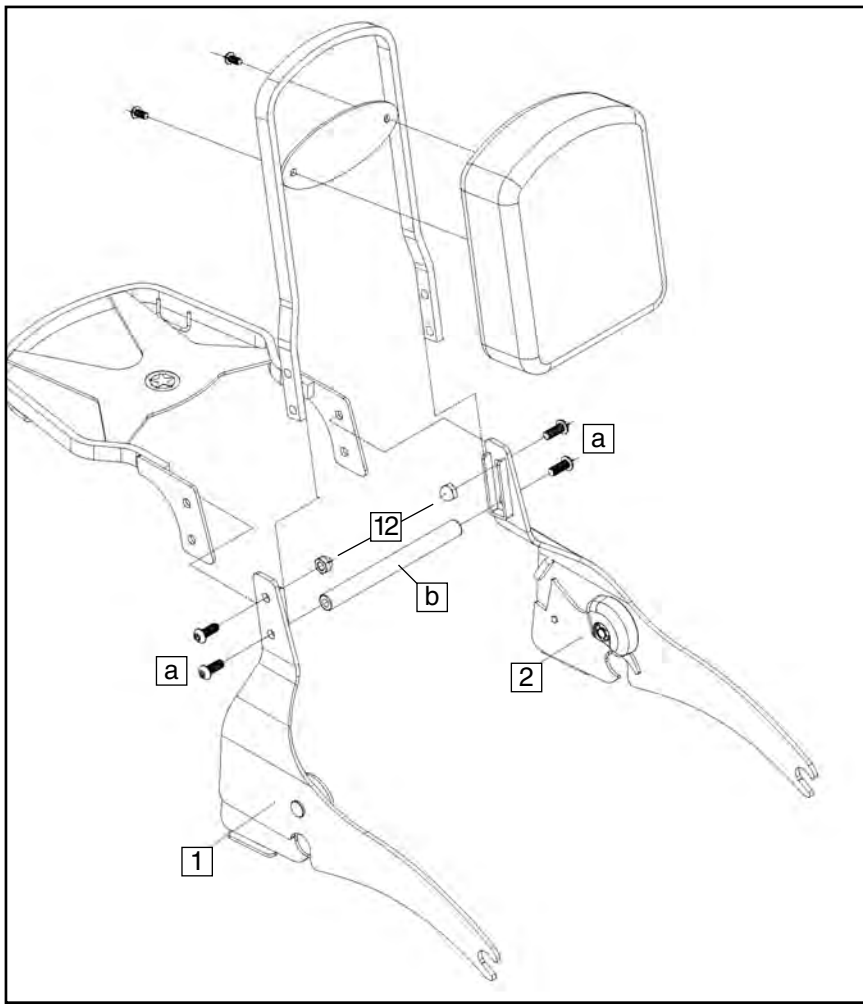

Figure 3
1. Assemble Side Plates (1) and (2) to the Paladin Backrest, alone or with the Paladin Luggage Rack. **(5mm Hex Wrench, 13mm Wrench, Thread Lock) Figure 3**
3. Torque Button Head Screws (a) and Cap Nuts (12) to 17 ft-lbs (22 Nm). **(Torque Wrench)**